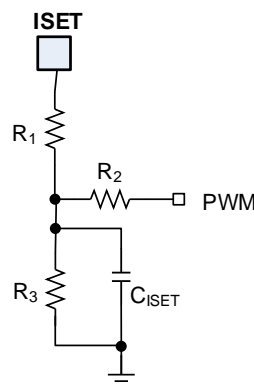

Figure 3: Equivalent  $R_{ISET}$  Circuit
Figure 3 shows the equivalent  $R_{ISET}$  circuit. It is possible to change the equivalent  $R_{ISET}$  by modifying the duty cycle of the PWM signal from an MCU. This means that the charging current can be adjusted in real time.
Based on Figure 3, the equivalent resistance ( $R_{EQ}$ ) between the ISET pin and AGND can be calculated with Equation (2)